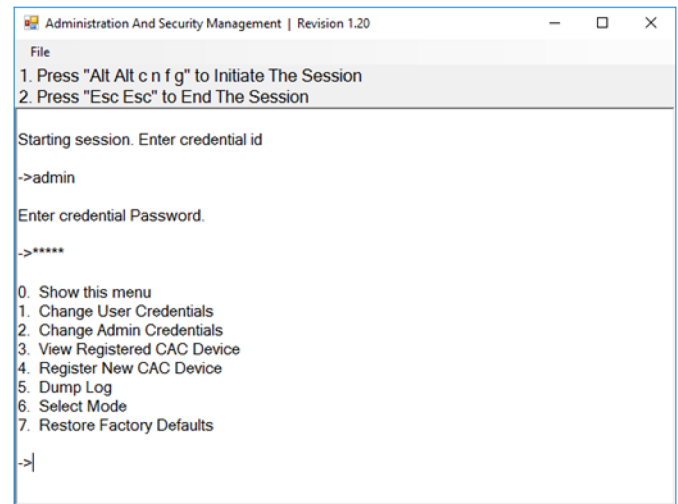

Figure 9-1
5. Request a Log Dump by selecting option 5 in the menu. (Shown in Figure 9-1)
5. Select option 7 from the menu on your screen and press enter. (Menu shown in Figure 9-1)